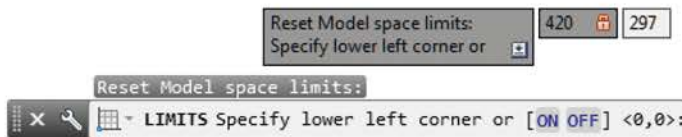

Fig. 1.25 Setting Limits to 420,297
- At the keyboard, enter **limits**, followed by a *right-click*. *Right-click* again. Then enter **420,297** and *right-click* (Fig. 1.25).